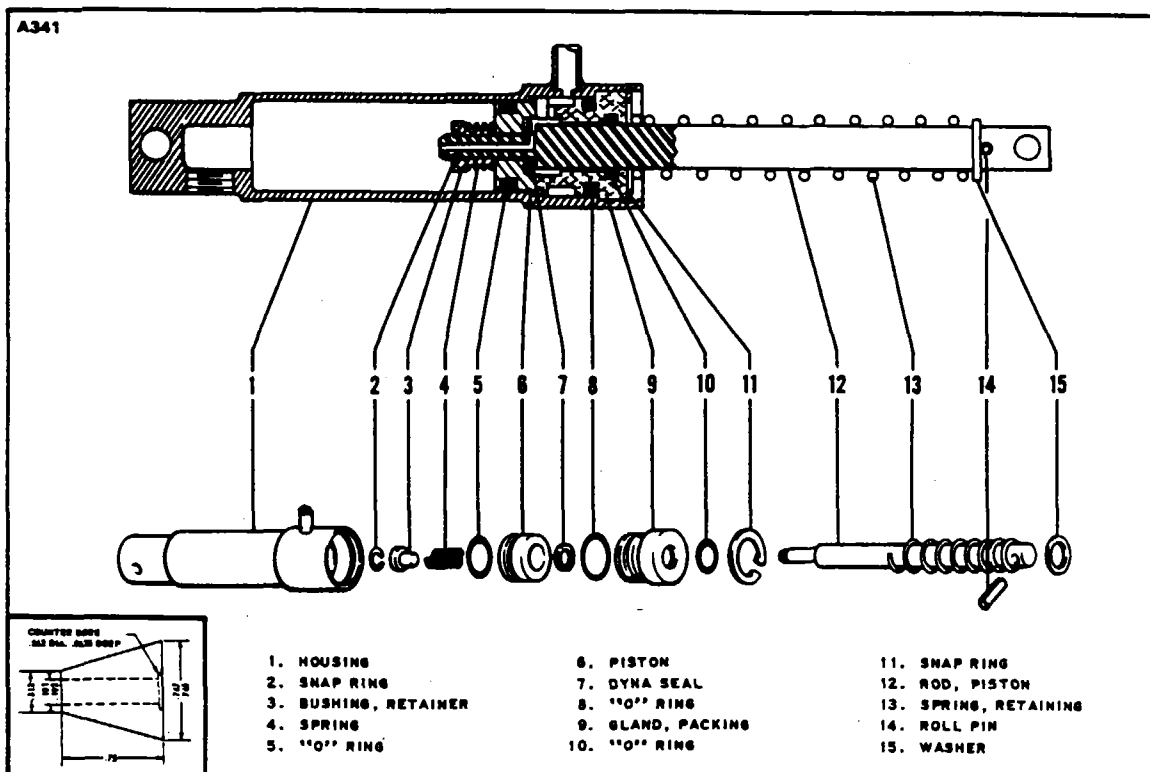

Figure 7-19. Brake Master Cylinder. (Hand/Parking Brake.)
7-62. DISASSEMBLY OF BRAKE MASTER CYLINDER. (Refer to Figure 7-19.)
7-64. ASSEMBLY OF BRAKE MASTER CYLINDER. (Refer to Figure 7-19.)
- a. Install new "O" rings on the inside and outside of the packing gland (9) and on the outside of the piston (6). (When installing teflon "O" ring (5) on piston, it is recommended that it be installed with the use of a cone placed against the piston. The cone may be constructed of plastic or metal with dimensions shown in Figure 7-19.)
- b. To assemble the piston rod assembly, install on the rod (12), in order, the roll pins (14), return spring retainer washer (15), return spring (13), packing gland (9) with "O" rings, seal (10), piston (6) with "O" ring, spring (4) and retainer bushing (3). Secure these pieces with small ring (2) on the end of the rod.
- c. Insert the piston rod assembly in the cylinder (1) and secure packing gland with snap ring (11).